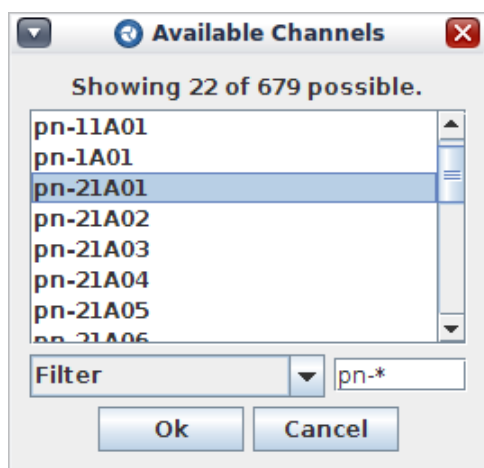

Figure 6.15. Channel Selection Dialog
- **Channel Name** - The name of the data channel (or often data channels) that will be animated by the bean. Display beans that use a single data channel will most often use the channel selector shown in Figure 6.15, “Channel Selection Dialog”. Beans that use multiple data channels (such as the Axial Plot bean) include more customized selectors.